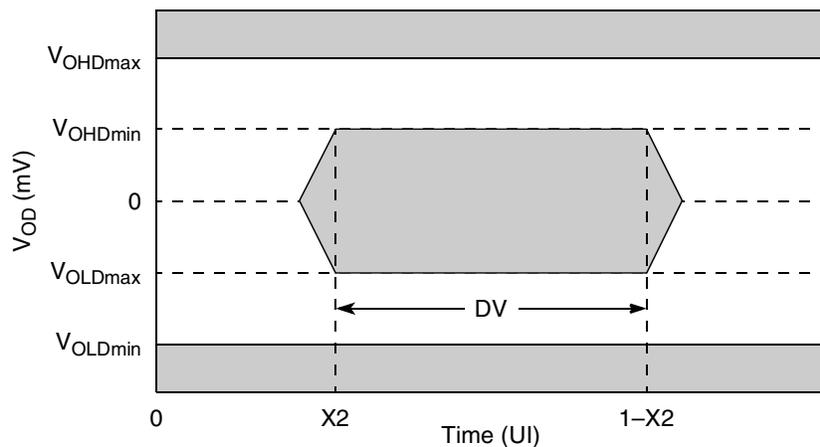

Figure 44. RapidIO Transmit Mask
1. See Figure 44.
4. Measured using the RapidIO transmit mask shown in Figure 44.
The compliance of driver output signals TD[0:15] and TFRAME with their minimum data valid window (DV) specification shall be determined by generating an eye pattern for each of the data signals and comparing the eye pattern of each data signal with the RapidIO transmit mask shown in Figure 44. The value of X2 used to construct the mask shall be $(1 - DV_{min})/2$. A signal is compliant with the data valid window specification if the transmit mask can be positioned on the signal's eye pattern such that the eye pattern falls entirely within the unshaded portion of the mask.